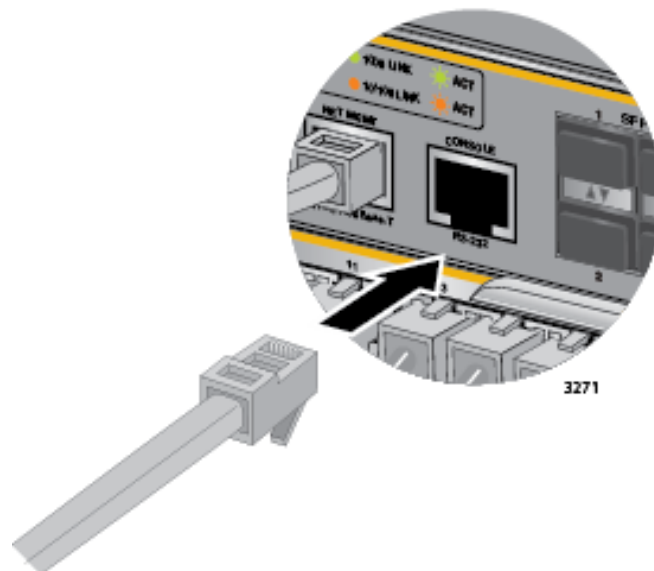

Figure 150. Connecting the Management Cable to the Console RS-232 Port
1. Connect the RJ-45 end of the management card included with the AT-SBx81CFC960 Controller Fabric Card to the Console RS-232 port on the front panel of the AT-SBx81CFC960 Control Card, as shown in Figure 150. If the chassis has two controller cards, you may use the Console RS-232 port on either card to establish a local management session with the chassis.